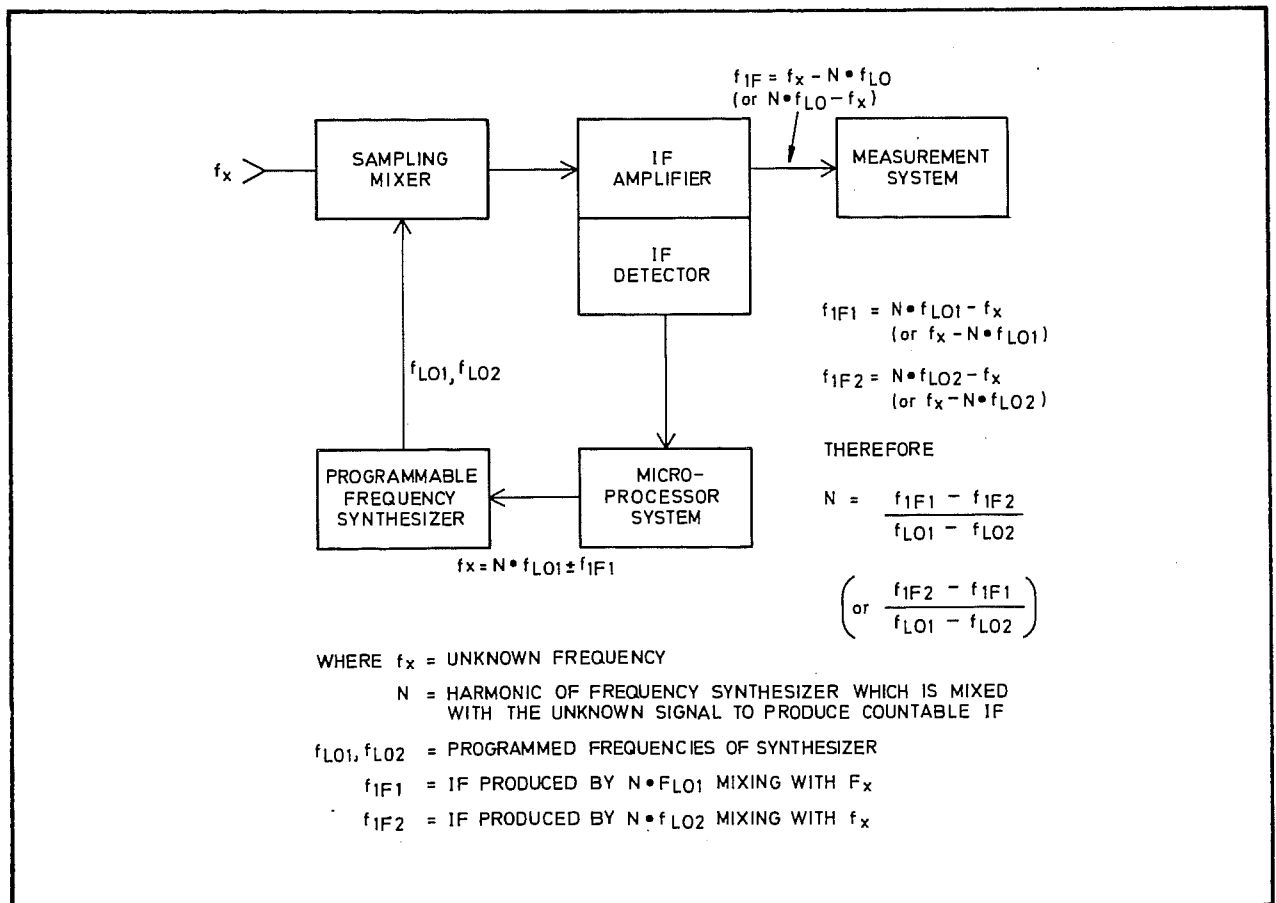

Fig. 6.4 The Channel C System
- 25 Signals in the frequency range of 500 MHz to 20 GHz are applied at INPUT C. They are mixed via a sampling mixer, down to an intermediate frequency (IF) which is low enough to be acquired and counted by the measurement circuits. The process of mixing down used in the 2101 is known as harmonic heterodyning and is described under the title 'Harmonic Heterodyning'. The process of acquiring a signal is described in the section following 'Harmonic Heterodyning'. A functional block diagram is given in Fig. 6.4.